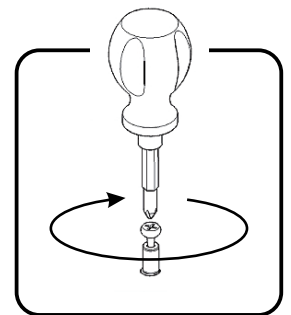

Figure 1
Insert Cam Lock Screws into pre-drilled holes in Top (A), Side Panels (B), (C) and Bottom (G), then tighten. (See Figure 1)